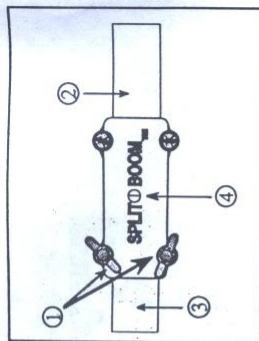

Fig. 4
1. Loosen the wing screws of the Split-Boom coupler. This will allow the lower (attachment) boom to be inserted into the coupler (Fig. 4).